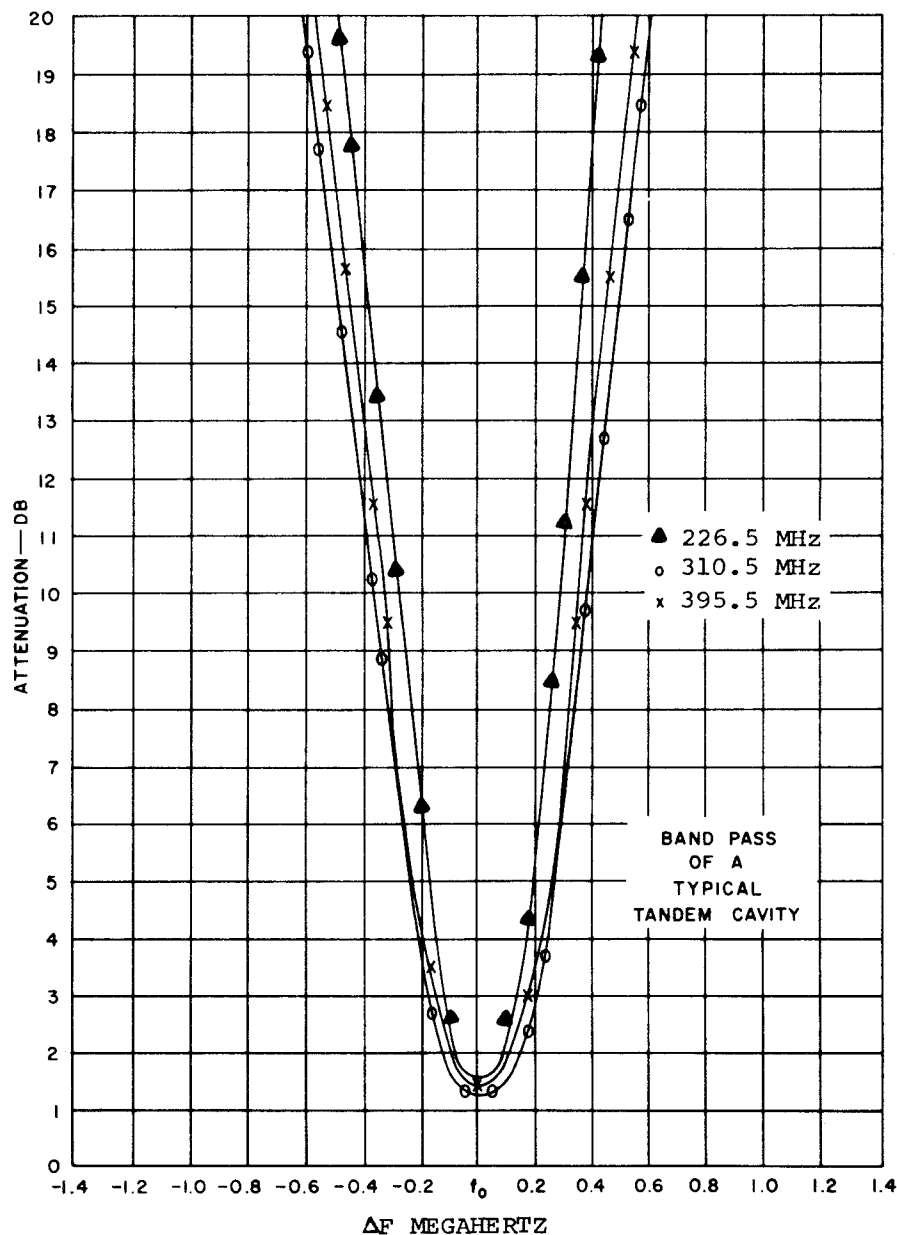

Figure 2-6 Antenna Coupler CU-691/U Dual Cavity Resonator Selectivity Curves
- q. SELECTIVITY. - See Figure 2-6.
- (1) 1.5 MHz channel separation -20 dB.
- (2) 3 MHz channel separation -40 dB.
- (3) 10 MHz channel separation -60 dB.